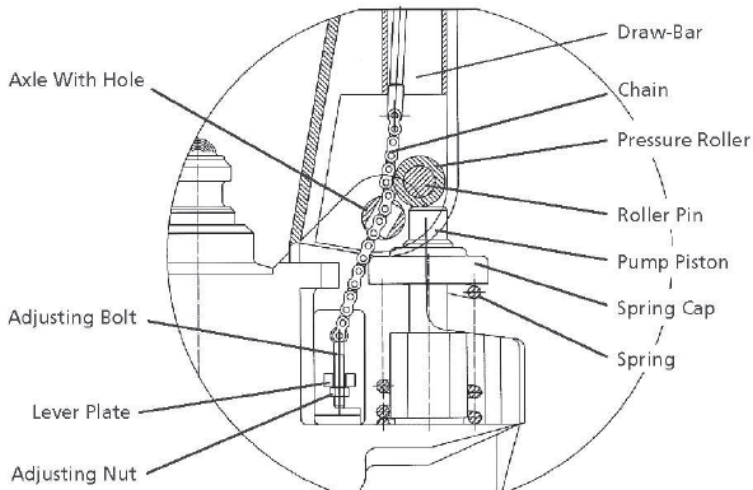

Fig. 3
- b) Set the control lever of the handle to the 'LOWER' position, then pass the adjusting nut, adjusting bolt through the hole of the axle with your hand (Fig. 3).
WARNING: Before starting operating the truck, ensure that all markings and decals are on the right place and not damaged (acc. to fig. 3). If necessary replace the decals.